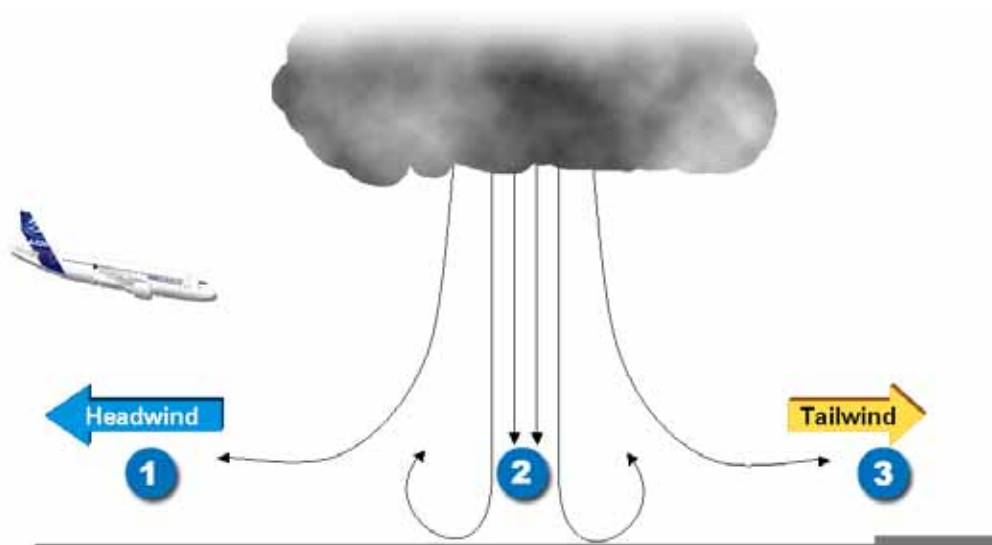

Figure 1
Microbursts combine two distinct threats to aviation safety (**Figure 1**):
- Headwind gust instantaneously increases the aircraft speed and thus tends to make the aircraft fly above intended path and/or accelerate (see **Figure 1**, item 1).
- A downdraft affects both the aircraft Angle-Of-Attack (AOA), that increases, and the aircraft path since it makes the aircraft sink (see **Figure 1**, item 2).
- Tailwind gust instantaneously decreases the aircraft speed and thus tends to make the aircraft fly below intended path and/or decelerate (see **Figure 1**, item 3).
Vertical downdrafts are usually preceded by an increase of the headwind component (see **Figures 1 and 3**). If the pilot does not fully appreciate the situation, he/she will react to the headwind gust effects to regain the intended path by
This is what an aircraft encounters when it flies through a microburst (see **Figure 1**).